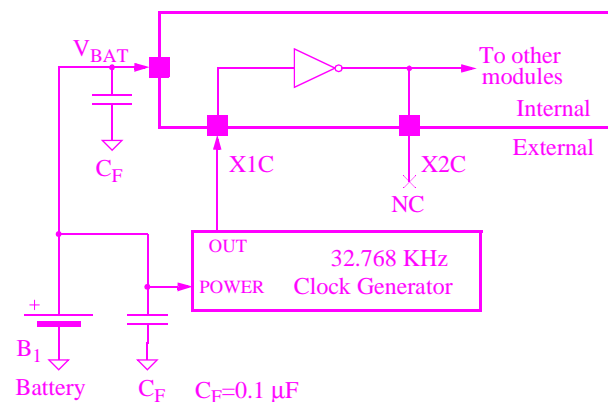

Figure 4-10 External Oscillator Connections
32.768 KHz can be applied from an external clock source, as shown in Figure 4-10.